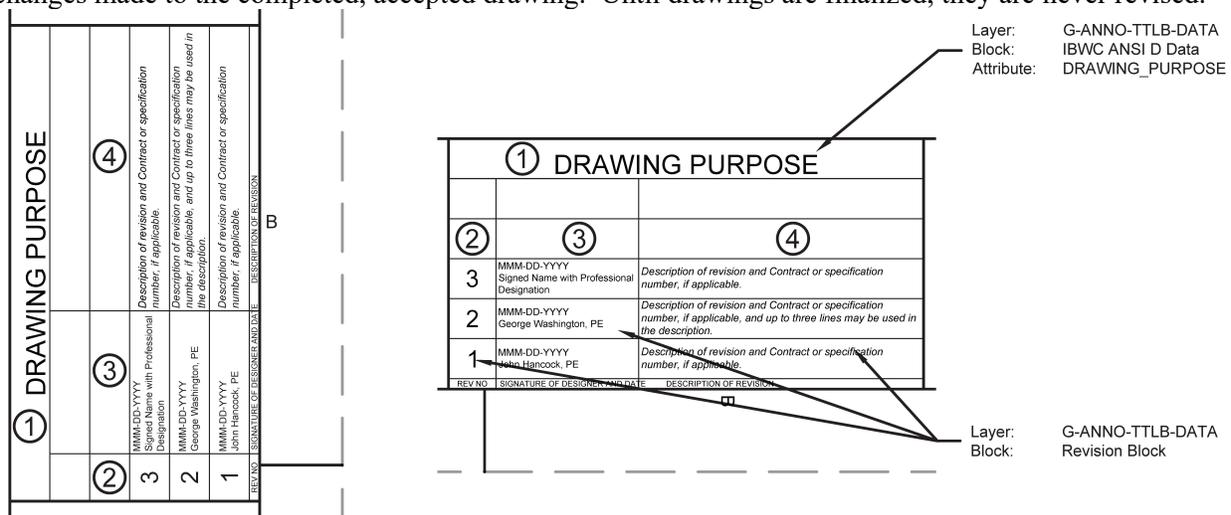

Figure 24-USIBWC Border: Drawing Purpose & Revision Block
The drawing purpose identified in Figure 24 and described in Subsection 4.4.A. shall be changed to "RECORD DRAWING."
The revision block identified in Figure 24 shall be cleared. This is described in Subsection 4.4.B. The only revisions that shall be indicated are changes made to the finalized record drawings.
4.4. DRAWING PURPOSE AND REVISION BLOCK (FIGURE 24)
4.4.A. Figure 24, Item 1 - Drawing Purpose (1 line only)
(1) Informational drawings are usually figures in reports but they may also present data collected for record.
(2) Drawings produced during feasibility studies are informational drawings.
(3) Figures within reports should be made into drawings when they contain project data that is applicable to stand alone outside of the report they are in. Examples include geologic mapping, borehole data, drainage basins, or surveys.
4.4.B. Figure 24, Items 2, 3, and 4 - Revision Block
1. A template for this data is provided in the block entitled Revision Block. The text shown for Items 2, 3, and 4 in Figure 24 represents the Revision Block. Insert block at $x = 0$ $y = 0$.
4. Figure 24, Items 2 - Area for Revision Number
5. Figure 24, Item 3 - Area for Designer's Name and Revision Date
6. Figure 24, Item 4 - Area for Revision Description